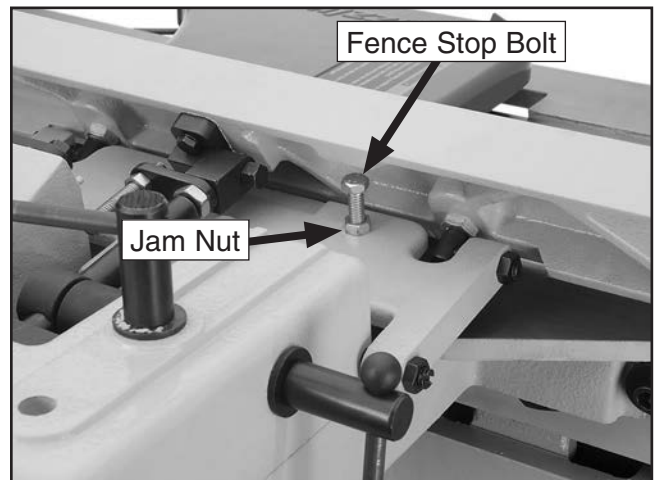

Figure 55. 45° outward fence stop jam nut.
2. Loosen the jam nut on the 45° outward fence stop bolt (see **Figure 55**).